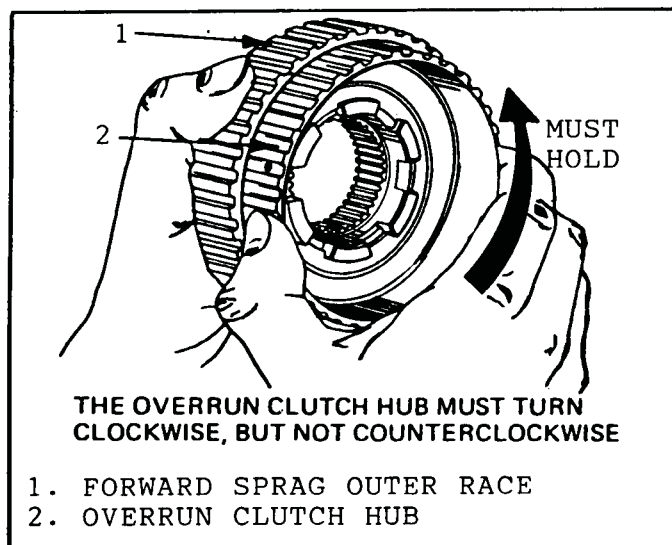

Figure 85
1. Test the forward sprag assembly for proper operation as shown in Figure 85.